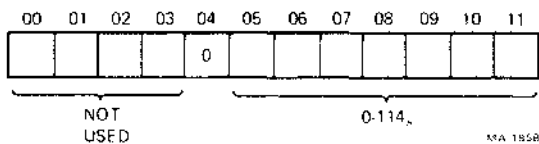

Figure 4-6 RX2TA Format (RX8E/RX28)
4.1.3.3 RX2TA – RX Track Address (Figure 4-6) – This register is loaded to indicate on which of the 77 (0–76) tracks a given function is to operate. It can be addressed only under the protocol of the function in progress (Paragraph 4.1.4). Bits 0–3 are unused and are ignored by the control.